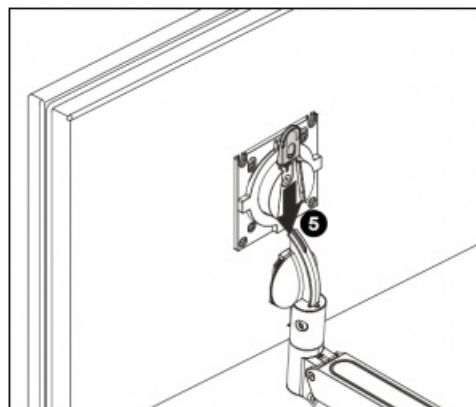

Figure 11
4. Position display with faceplate attached above mount. (See Figure 11)
5. Slide faceplate onto mounting head until quick release tab clicks into place. (See Figure 11)